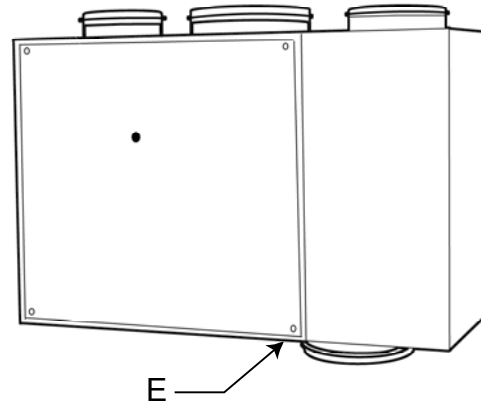

Fig. 1
- Open the front hatch, see fig. 1.